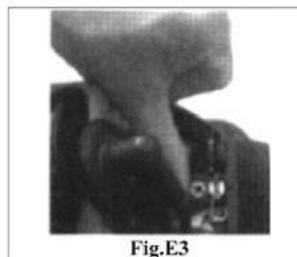
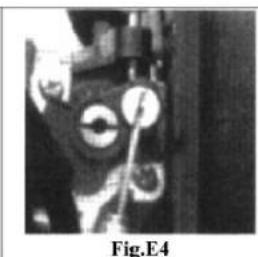

Fig.E3
Fig.E4
2. Connect the end of the throttle cable to the joint on the top of the carburetor. See Fig.E3, Fig.E4